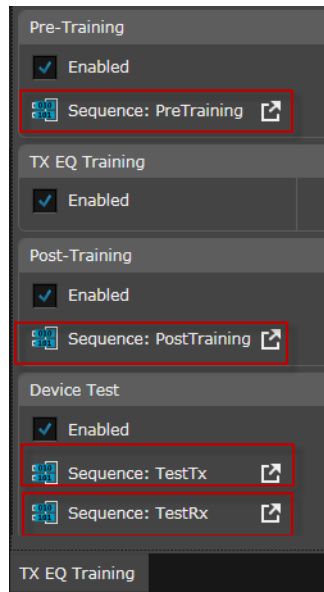

Figure 20 Sequence Editor Window
- Click any of the sequences in the user interface window of the plug-in as shown (red boxes) in Figure 20: